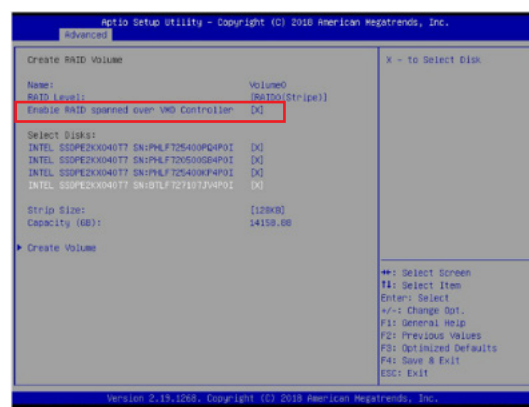

Figure F-4. Created Volume *with* enabling RAID spanned over VMD controller
11. If cross-controller RAID is required, select **Enable RAID spanned over VMD Controller** as shown in Figure F-4.